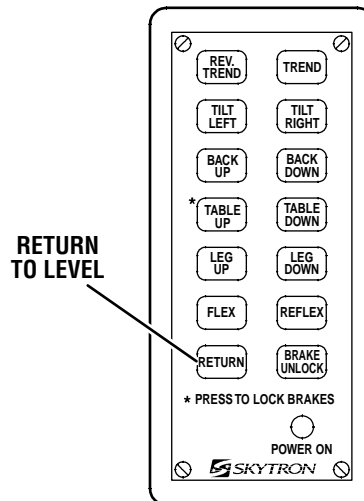

**Figure 3-9. Flex/Reflex Positioning**
**g. Flex Positioning.** To place the table top in a flex position from horizontal, press the FLEX button (figure 3-9). To return the table top to a horizontal position or into a reflex position, press the RETURN or REFLEX button.